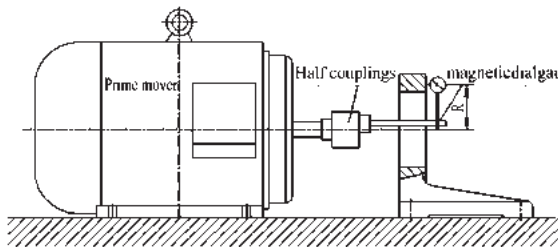
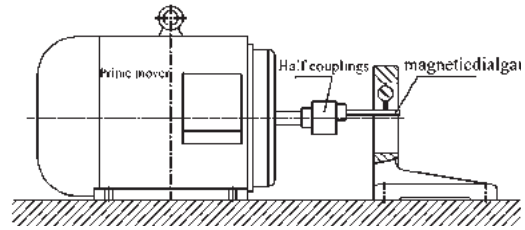
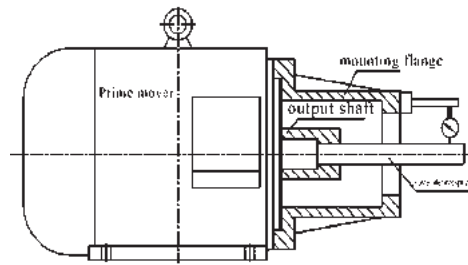

Fig. 7
Fig. 8
Fig. 9
3.1 Stent installation: the checking method of installation accuracy of prime mover output shaft and support are shown in Fig.7
In Fig.8, the coaxial tolerance of error  $\leq \Phi 0.05$ ; In Fig.7, Vertical degree beating  $\leq 0.05$  (R is circle radius of pump installation screw holes distribution)
3.2 Flange installation: In this form, if prime mover and pump is connected with the coupling, the installation precision testing methods as shown in Fig.8. If the pump shaft directly into prime mover in the output shaft, the installation precision testing method is as Fig.9